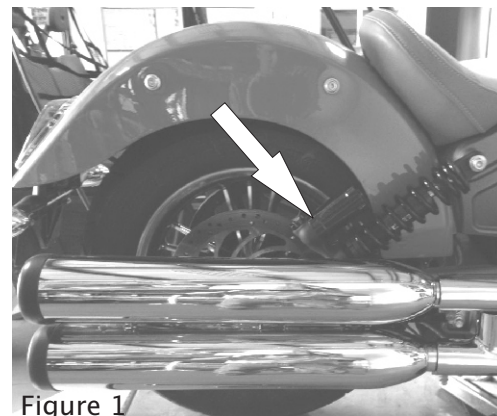
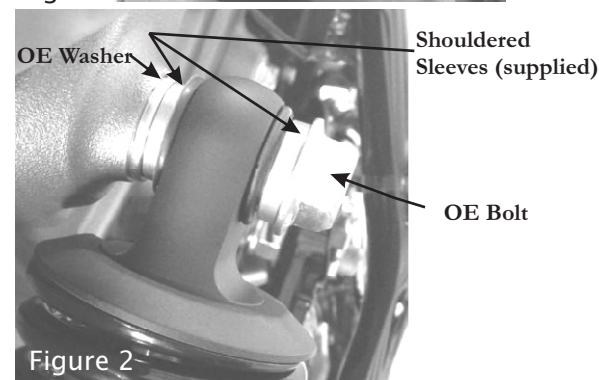
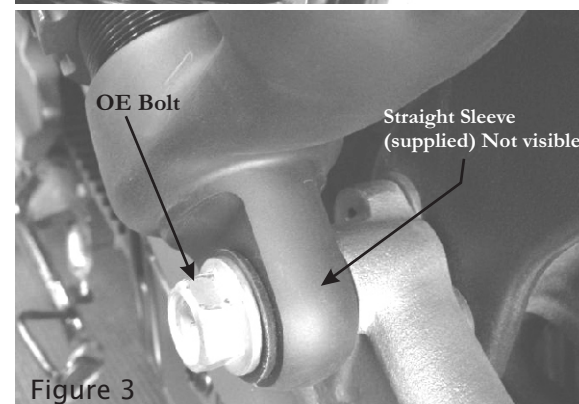

Figure 1
Figure 2
Figure 3
3. Though the 970 Series shocks will work with the reservoirs in any position, on Scout models with OE mufflers, the reservoirs must be at the bottom facing rearward (as in Figure 1) to avoid contact with the top muffler. It is crucial that the proper sleeves and mounting hardware be used at each of the four mounting points - and don't forget to apply a thread-locking agent on each of the shock bolts. On the top mounts, both left & right, install the shouldered sleeves into the bushings, and install as shown in Figure 2 with the OE flat washer between the shock and frame. On the bottom mounts, both left & right, install the straight sleeves into the bushings and install as shown in Figure 3. Tighten all shock bolts per the torque specification in your factory authorized service manual.